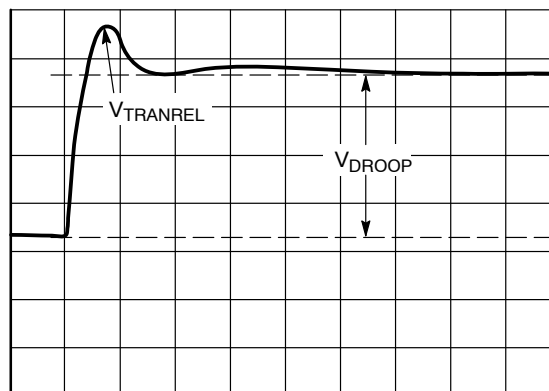

**Figure 36. Transient Setting Waveform, Load Step**
1. With the dynamic load set at its maximum step size, expand the scope time scale to 2  $\mu$ s/div to 5  $\mu$ s/div. This results in a waveform that may have two overshoots and one minor undershoot before achieving the final desired value after  $V_{DROOP}$  (see Figure 36).